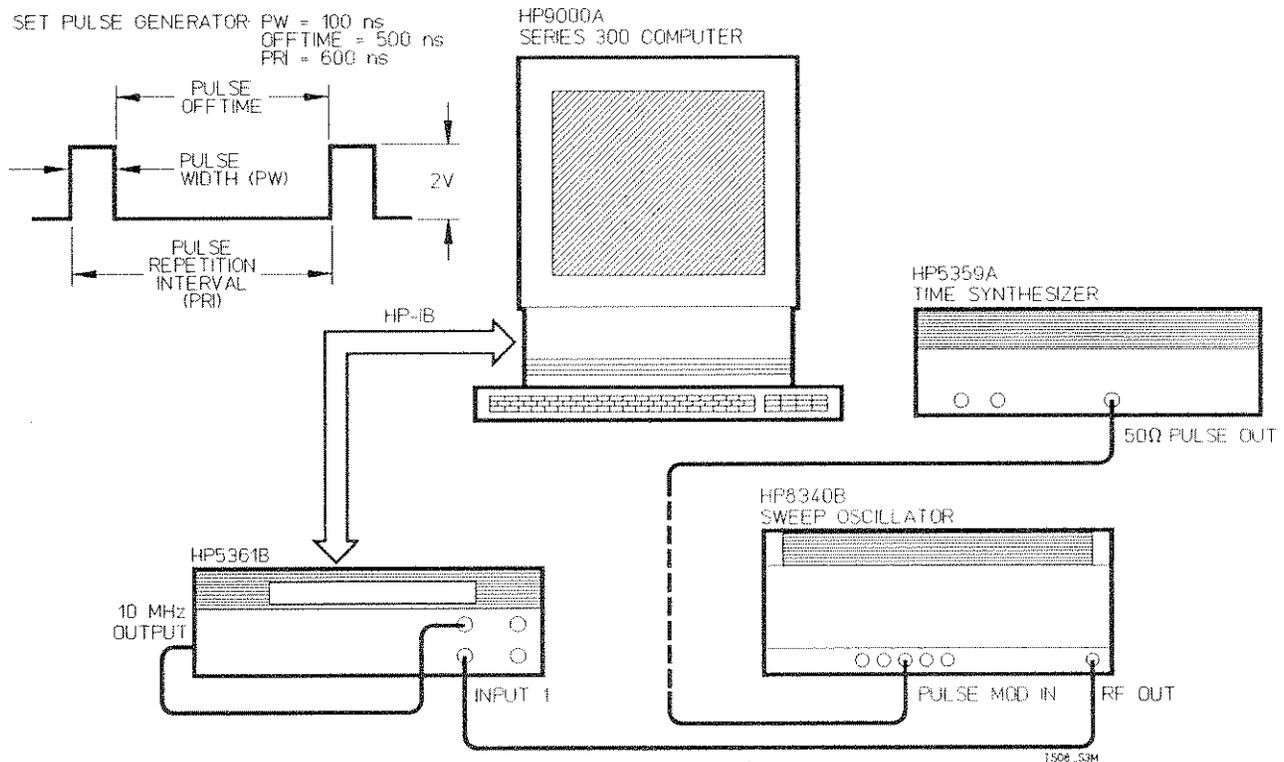

Figure C-5. Setup: HP-IB Verification, CW/Pulse
The program listed at the end of this appendix exercises the HP 5361B through various operating modes via the counter's HP-IB interface. If the counter successfully completes all phases of the verification program, there is a high probability that the HP-IB interface (A11 Assembly) is operating correctly. You'll need to pass all check points of the verification program. Refer to the *Figure C-5*.
To perform the verification, set up the HP 5361B, HP 9000 Series 200/300 Controller, and signal source as shown in *Figure C-5*. The program will function with any valid HP-IB address set for the counter. The first setup is for CW signal verification only and is used for program check points 12, 13, 14, and 15. The second setup is a minor variation of the CW setup that verifies pulse signal operation for program check point 16.
- c. Observe the pulse signal on the oscilloscope using a 50 Ω termination for final adjustment. The waveform should conform to the one defined in Figure C-5.